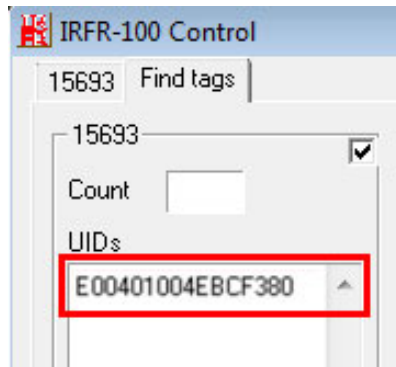

Figure 3-22: IRFR – UIDs
Step 6: Place an RFID card near the RFID reader  on the bottom right corner of the front panel (Figure 1-2) then remove it. The card number will be shown in the UIDs column (Figure 3-22).